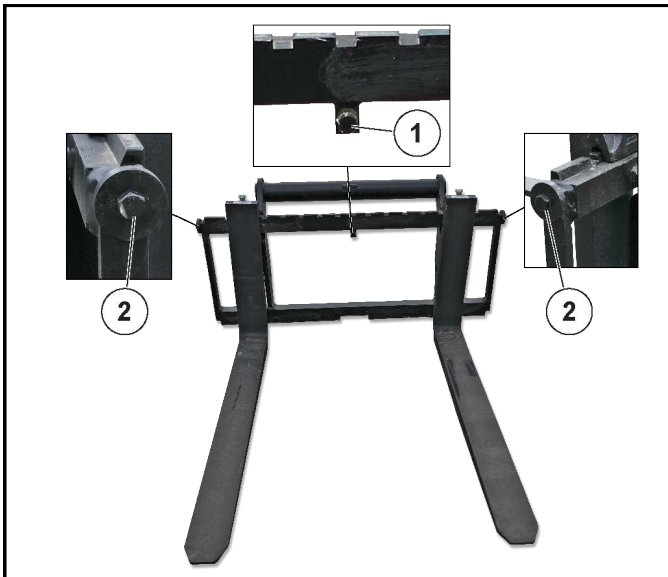

Fig. 132 – Fork Carrier Blocking Systems
Before operating the machine, make sure the fork carrier blocking systems (welded or removable), at the center (1, Fig. 132) and the outside (2) of the fork carriage frame are not damaged and/or missing.